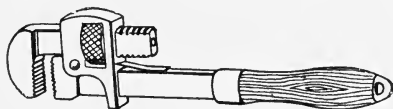
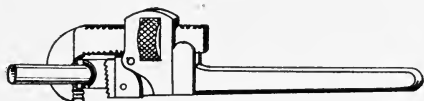

Fig. 95
Fig. 96
**Pipe Tongs and Wrenches.**—Pipes are made up by the aid of pipe wrenches and chain tongs. Of the pipe wrenches used Stillson wrenches, Fig. 95, and Trimo wrenches, Fig. 96, are among the best. These wrenches are made in sizes from 6